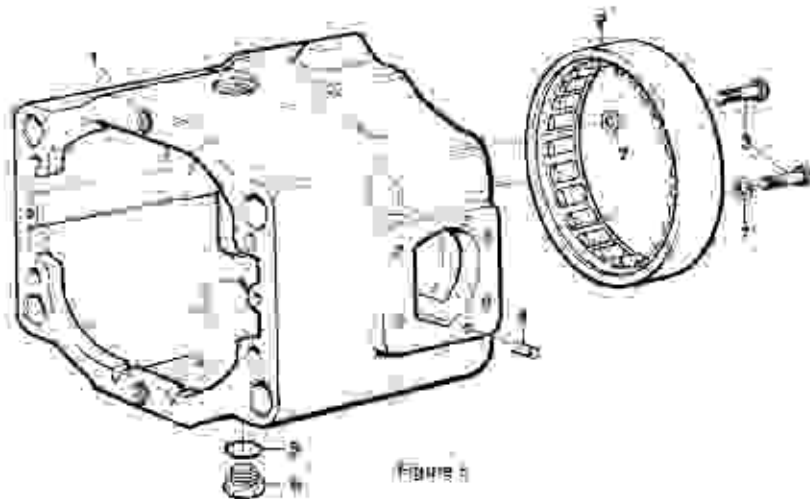

FIGURE 5
See figure 5. Clean housing (1) and position on a flat surface with the large open end up.
PARTS LIST FOR FIGURE 5